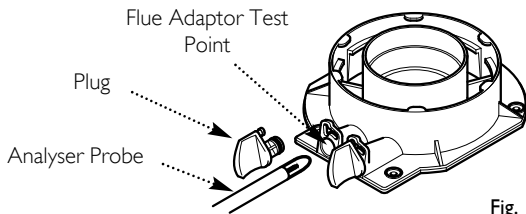

Fig. 101
7. Remove the plug from the flue sampling test point. Insert the analyser probe and allow sufficient time for the reading to settle (Fig. 101).